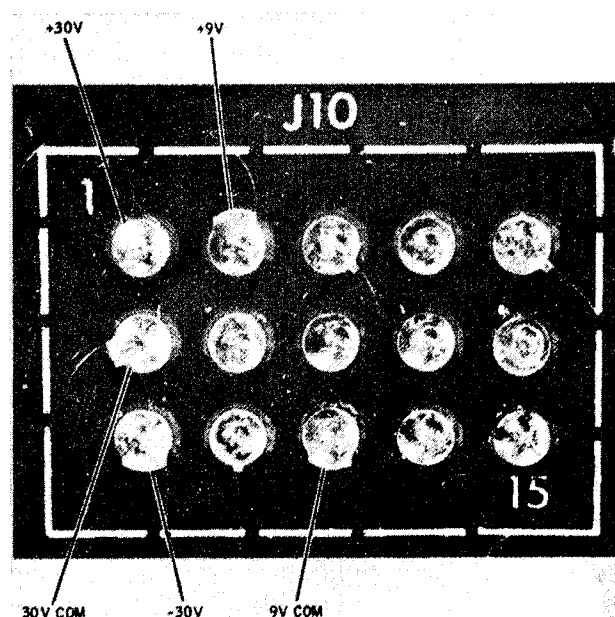

Figure 2-2. Dc Voltage Check Points
2. Locate connector J10 on the Power Supply circuit board (see Figure 2-2) and check for in-tolerance dc voltages between the pins listed below.